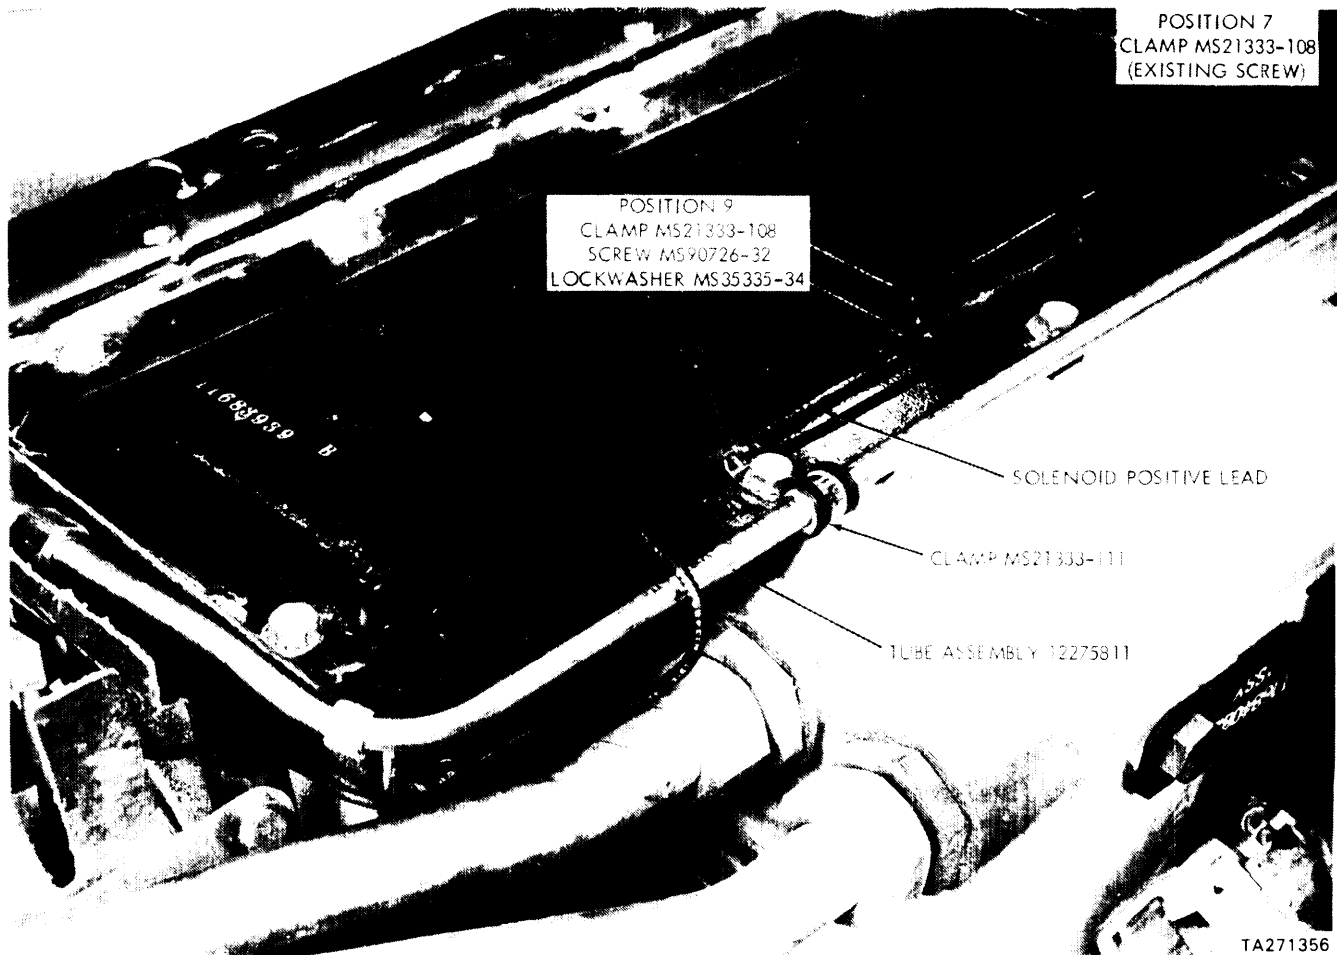

Figure 20. Routing of Solenoid Positive Lead
(7) Position clamp MS21333-111 on tube assembly 12275811 and clamp MS21333-108 on solenoid positive lead and secure clamps to engine access cover with screw MS90726-32 and lockwasher MS35335-34 (figure 20).
(9) position clamp MS21333-108 on solenoid positive lead and secure clamp at position 7 (figure 20) with screw removed in step 8.
(11) Disconnect cable connector from low voltage protection module (figure 20).